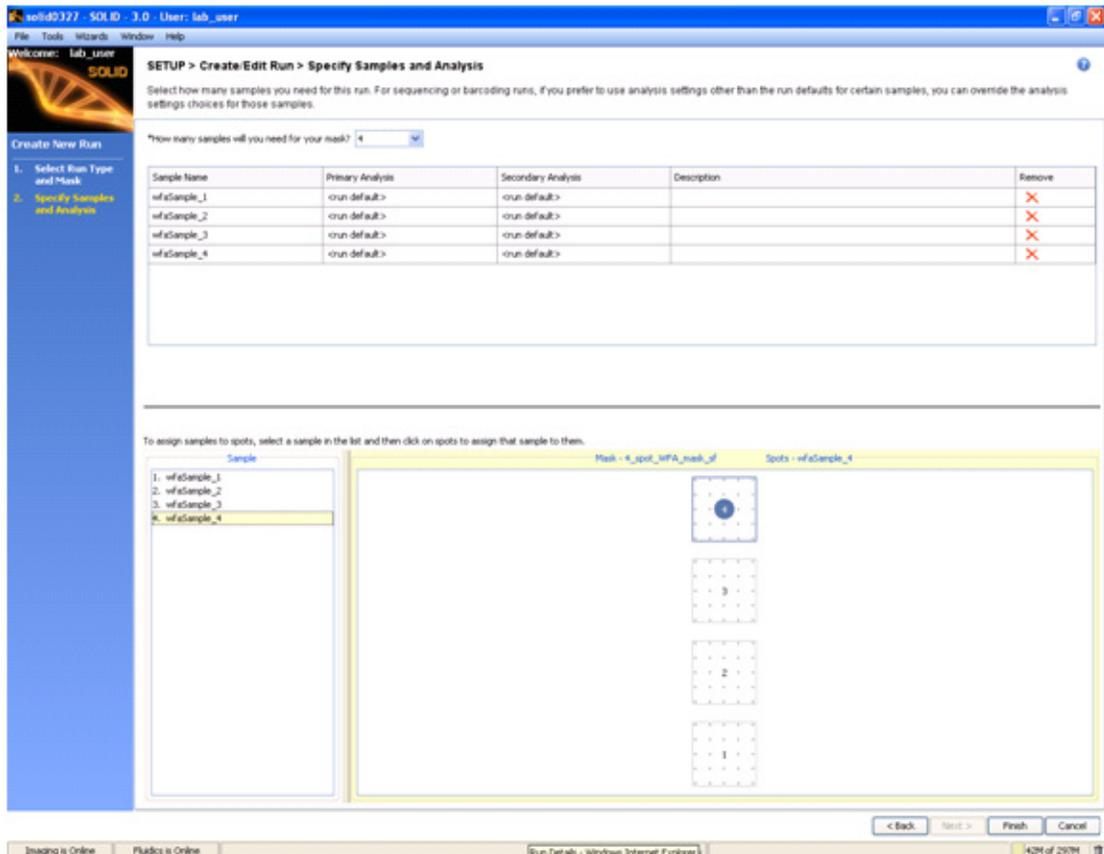

Figure 35 Complete the information in the Specify Samples and Analysis pane.
3. Complete the information in the Specify Samples and Analysis pane (see Figure 35 on page 48):